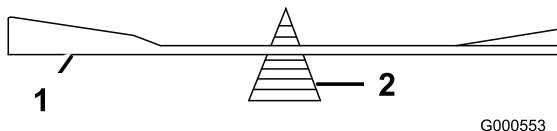

Figure 61
2. Check the balance of the blade by putting it on a blade balancer (Figure 61).